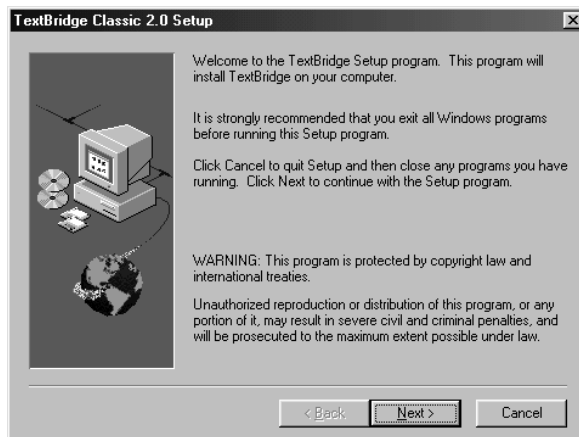

Figure 27: Installing TextBridge Classic
1. After installing Acrobat Reader, start the installation of TextBridge Classic. Figure 27 will pop up.